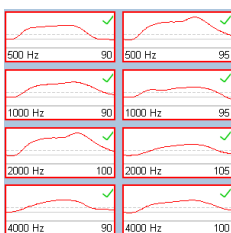

Figure 48
**Graph:** The measured curves are displayed simultaneously to the ongoing test. For easier evaluation the pass criterion threshold and the zero line are shown in the graph. Underneath each diagram the frequency and the intensity level in dB HL are displayed (Figure 48).